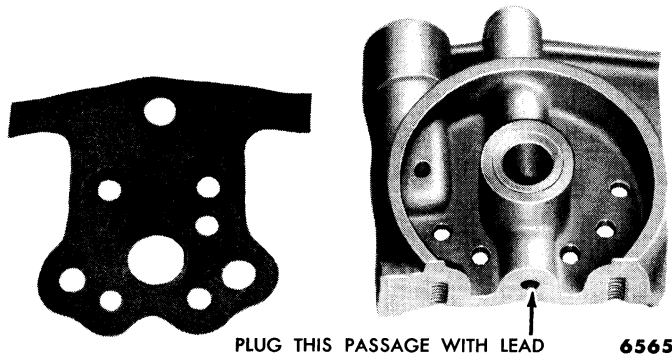

Fig. 60—Main Body Cover Sectioned
(6) **FUEL LEVEL CHECK.** The fuel level can be checked with the engine running. A main body cover and gasket should be sectioned as shown in fig. 60. After the cover is sectioned, be sure to plug the power valve diaphragm vacuum passage with lead.